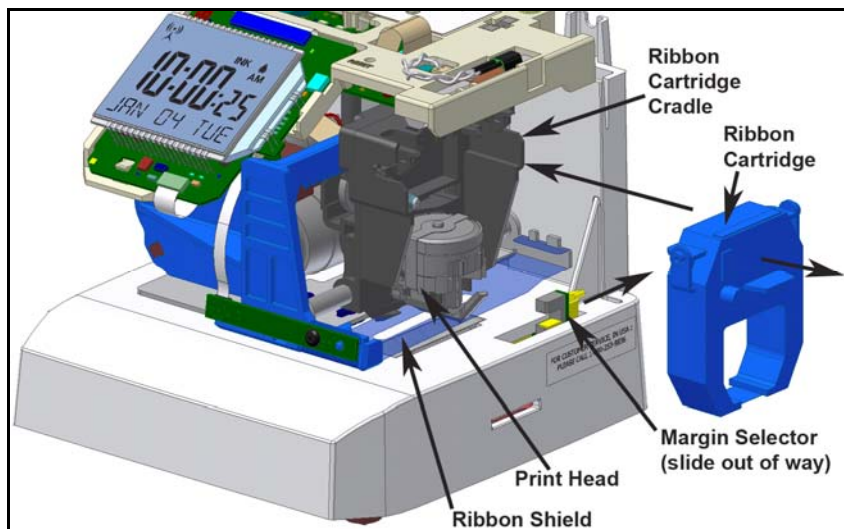

Figure 6: TCX-85 Ribbon Cradle Location.
The Amano TCX-85 clock pictured in Figure 6 shows a typical layout with the ribbon cartridge removed from the cradle.
- Step 2. Grasp the tab on the ribbon cartridge, and pull the ribbon cartridge out of the cradle (see Figure 6).
- Step 5. To reset the INK indicator, press and hold the **ENTER** button for three (3) seconds.
Note – If the print mechanism is down (a piece of paper could not be inserted), press the **RESET** button to move the carriage to the up position. This will make the ribbon cartridge installation easier. **The Margin Selector (see Figure 6) can be moved toward the rear of the clock to provide more clearance for ribbon replacement.**
The Amano Part number for a replacement Ribbon Shield (see Figure 6) is **AJR-600600**.